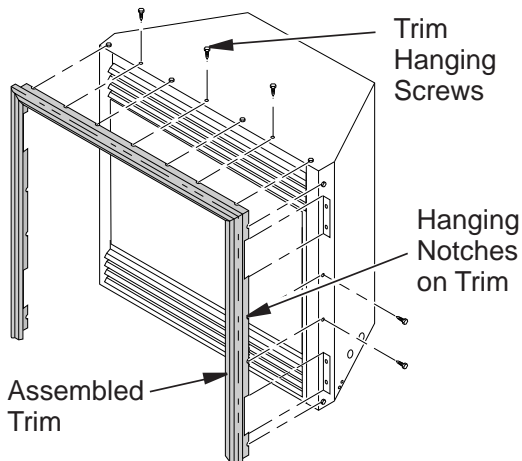

Figure 7 - Attaching Perimeter Trim to Fireplace
8. Tighten trim hanging screws (#10 x 6.25 shoulder) into holes in cabinets. Place the assembled trim onto fireplace cabinet. Align hanging notches on trim with hanging screws on side of fireplace (see **Figure 7**). Push trim firmly into place, sliding hanging notches over hanging screws.
9. Install trim after final finishing and/or painting of wall (see *Figure 7*, Page 10).